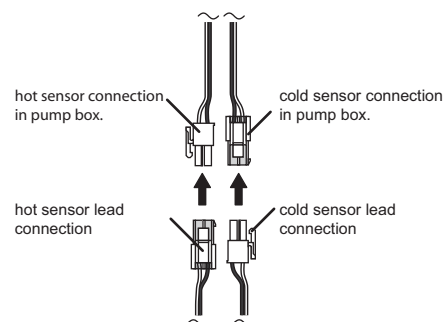

Figure 31 - Temperature Sensor Leads
1. Ensure hot and cold sensors are connected as shown in *Figure 31*.